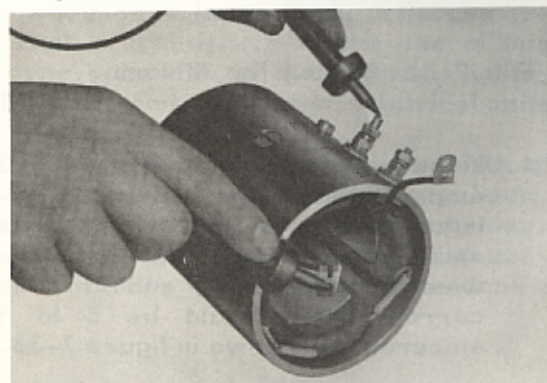

Fig.7-27 Testing Field Coil for Open Circuit W2746
1. Check the brush length as shown in figure 7-27. If the length of brush/es is less than 12 mm (0.47"), replace the brush/es.